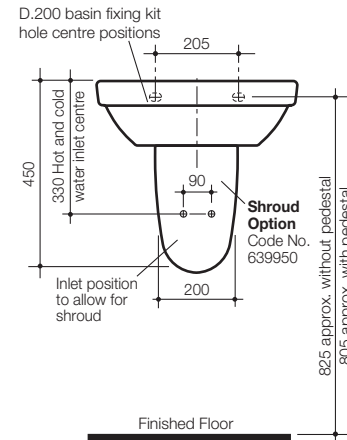

Fig. 1
For timber stud walls, noggins and studs must be positioned at a height to allow for the location of fasteners, as detailed in **Fig. 1**. When installing a shroud, position water inlet connections, as detailed in **Fig. 1**.
- 1- Mark fixing screw hole position on finished wall at the recommended height as detailed in **Fig. 1**.
- 1- Mark fixing screw hole position on finished wall at the height as determined above, approximately 805mm as detailed in **Fig. 1**. Position basin over pedestal and check fixing centres and waste pipe centres. Adjust if necessary.